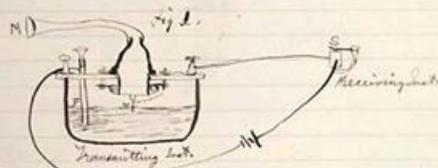

Fig. 1.
1. The improved instrument shown in Fig. 1 — constructed this morning and tried this evening. P is a brass pipe and W the platinum wire M the mouth piece and S the armature of the Receiving Instrument.